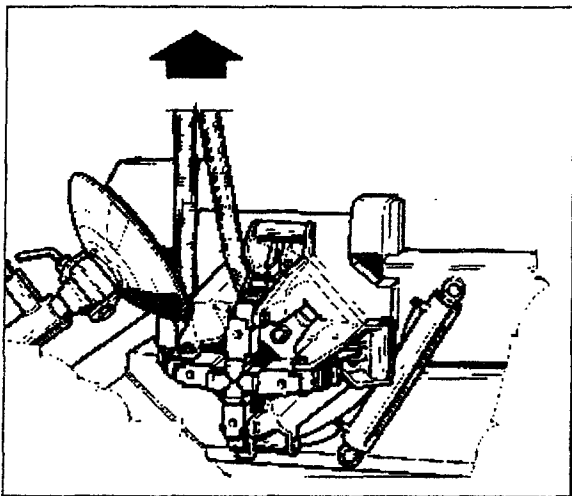

Fig.12
- A. Before raising the machine, ensure that the chuck is completely closed, that the chuck arm is lowered and the toolholder carriage is in all the way in Fig.12.
Lift the machine only with the two lifting lugs with a belt or rope of appropriate length and strength (300 cm - 10') (Fig.12).